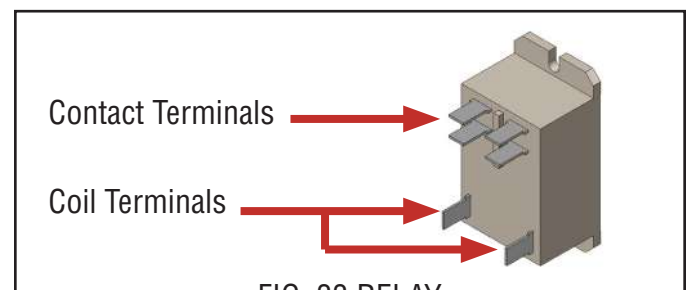

FIG. 33 RELAY
8. Check relay coil for 24VDC during “Compressor” test. See FIG. 33.
10. Next, adjust meter to read continuity. Place leads across relay contact/terminals. Must read no continuity until you turn On “Compressor” outlined in steps 1 thru 7. See. FIG 33.